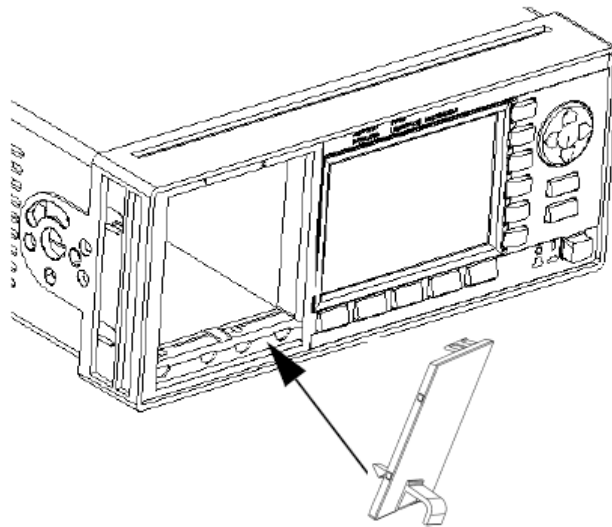

Figure 1 Fitting a Blind Panel
- 1 Position the blind panel as shown in Figure 1. Position the end closest to the handle against the bottom edge of the slot.